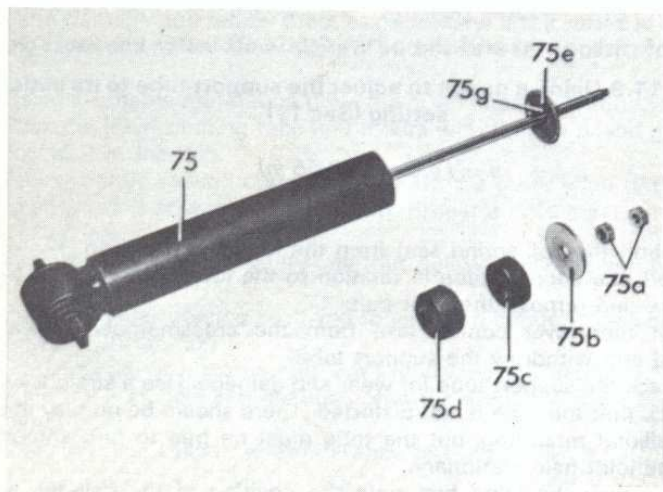

Fig. 11.10 Components of type A rear shock absorber (Sec 12)
- 6 Remove the components from the shock absorber, with reference to Figs. 11.10 or 11.11.
Key as Fig. 11.10